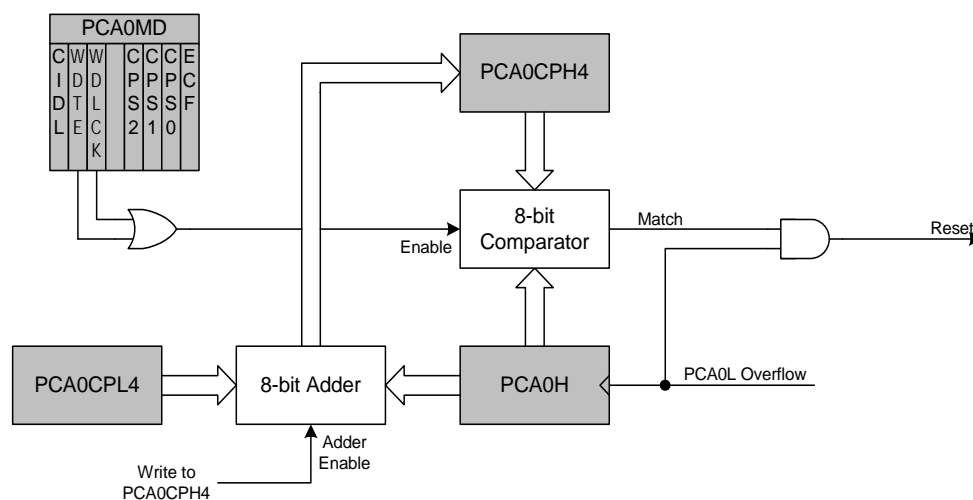

Figure 20.10. PCA Module 4 with Watchdog Timer Enabled
While the WDT is enabled, writes to the CR bit will not change the PCA counter state; the counter will run until the WDT is disabled. The PCA counter run control (CR) will read zero if the WDT is enabled but user software has not enabled the PCA counter. If a match occurs between PCA0CPH4 and PCA0H while the WDT is enabled, a reset will be generated. To prevent a WDT reset, the WDT may be updated with a write of any value to PCA0CPH4. Upon a PCA0CPH4 write, PCA0H plus the offset held in PCA0CPL4 is loaded into PCA0CPH4 (See Figure 20.10).